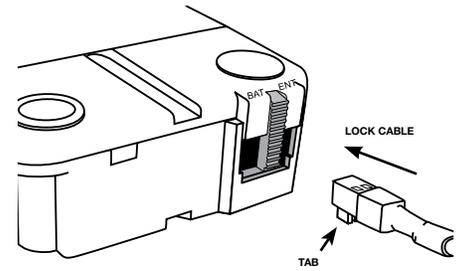

Figure 7
The number of lock cables and the number of interface boxes required for lock installation are dependent on the number of locks to be installed in the system. Each lock has two ports, one marked ENT and one marked BAT. The ENT port is used to connect the Entry to the lock (one lock system) or to interconnect a lock to an interface box (multi-lock system). The BAT port is used to provide power to the system. The cables should be inserted so the tab is facing in the **downward position** (Figure 7). Use care when installing the cables into the lock; a misaligned connector may bend the pins and damage the lock. Also, a cable that is mistakenly installed in the upward position will not make a connection and will cause a communication error.
1. Connect the 4-pin cable from the Entry into the ENT port on the lock (Figure 7).
5. Connect the cable coming from the Entry Device directly into the connector port marked ENT on the lock (Figure 7).